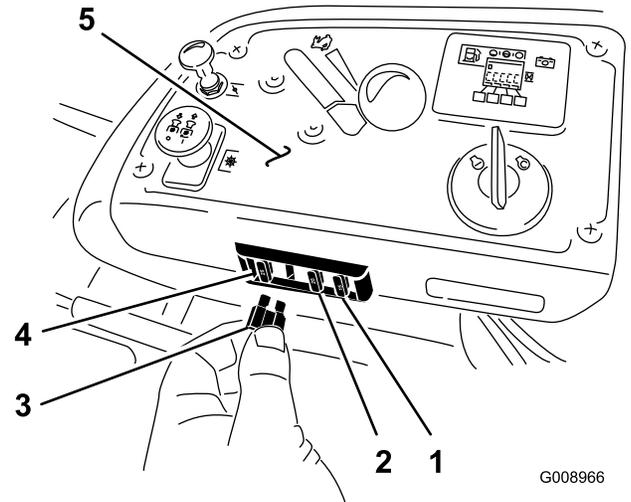

Figure 64
1. The fuses are located on right hand console next to the seat (Figure 64).
3. Install a new fuse (Figure 64).